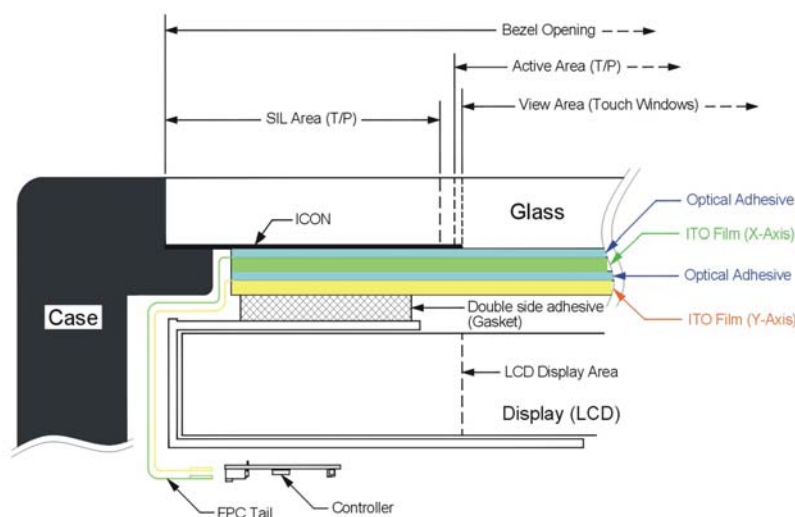

Figure 12-1
(1)	<p>The gasket support of touch panel must be designed on the outside of viewable area, as well as to avoid pressing on touch panel accidentally. The enclosure must be designed with enough clearance of panel surface. To avoid accidental actuation error on touch panel, please reserve sufficient space between the touch panel surface and the bezel. (Figure 12-1)</p> <p>[請將固定觸控屏用的支撐體(support)設計於可視區(Viewable area)之外。為避免不小心碰到觸控屏而產生動作，請預留空間於面板與機體外殼之間](圖示 12-1)</p>